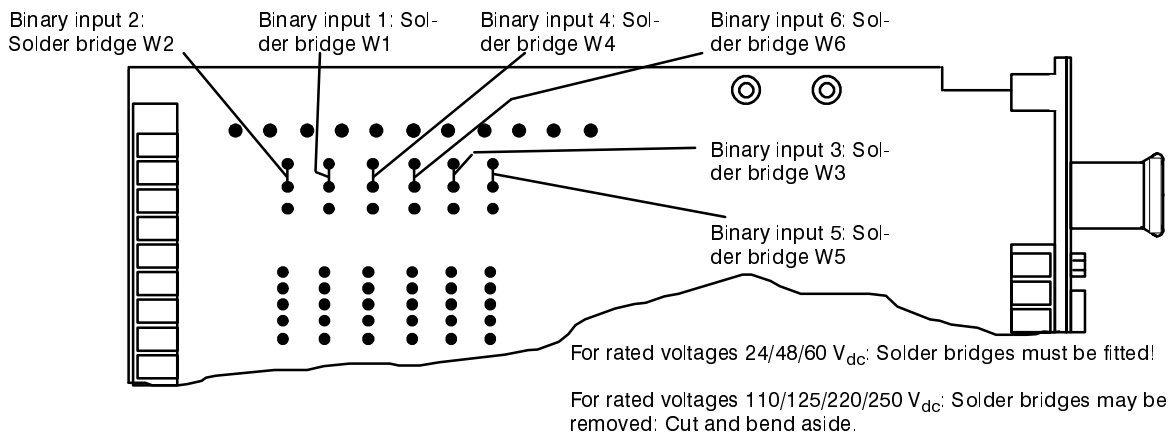
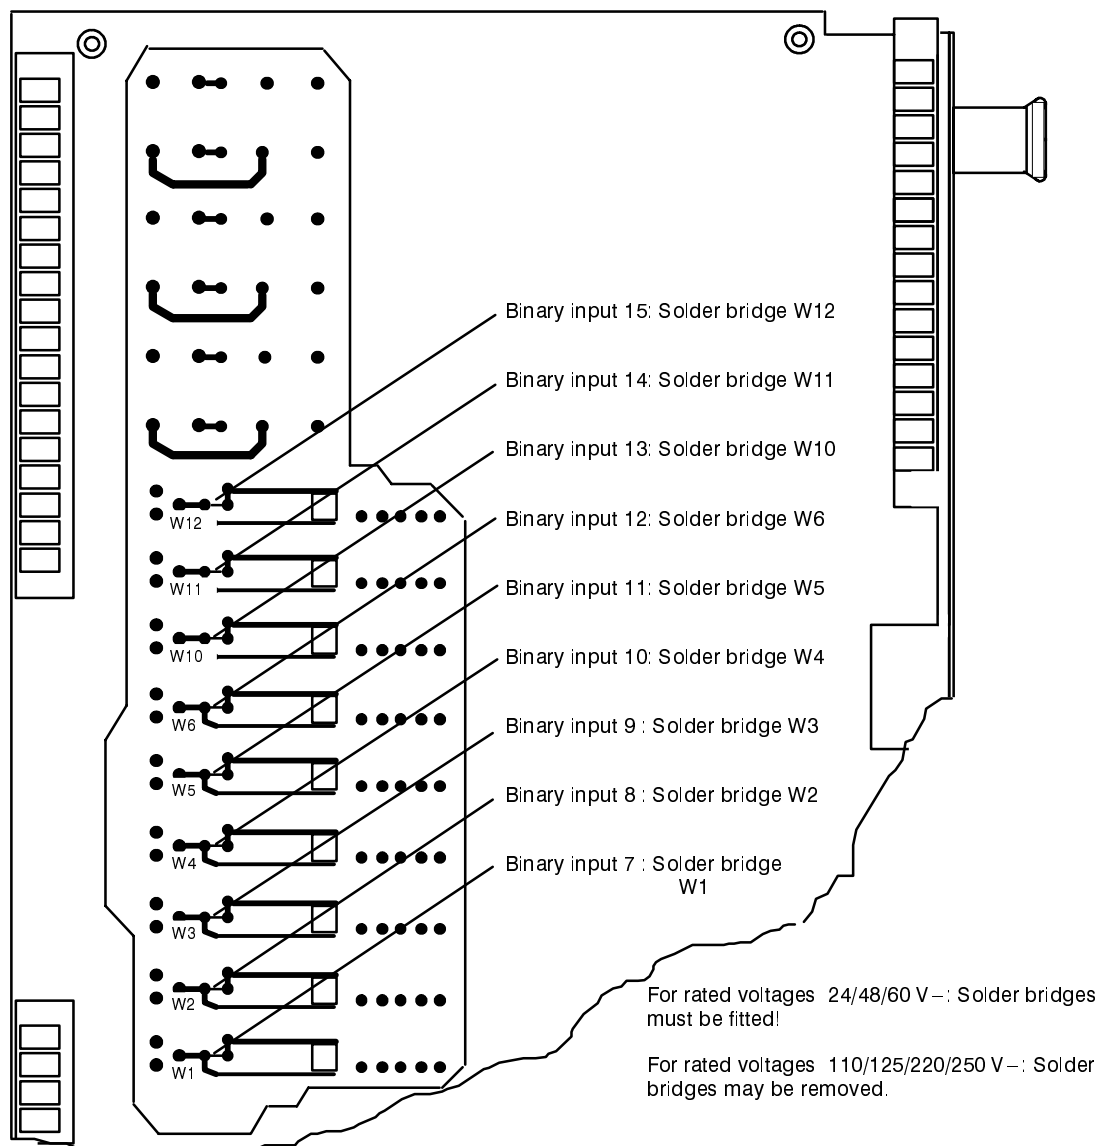

Figure 5.1 Checking of control voltages for binary inputs 1 to 6
Figure 5.2 Checking of control voltages for binary inputs 7 to 15
To select a higher pick-up threshold of approximately 70 V for a binary input a solder bridge must be removed. Figure 5.1 shows the allocation of these solder bridges for the inputs BI 1 to BI 6, and their location on the basic p.c.b. of the module EPS–2. Figure 5.2 shows the assignment of these solder bridges for the inputs BI 7 to BI 15 and their location on the additional p.c.b. (EAS–2) of the module.
- Check the solder bridges according to Figure 5.1 and 5.2, remove bridges where necessary.